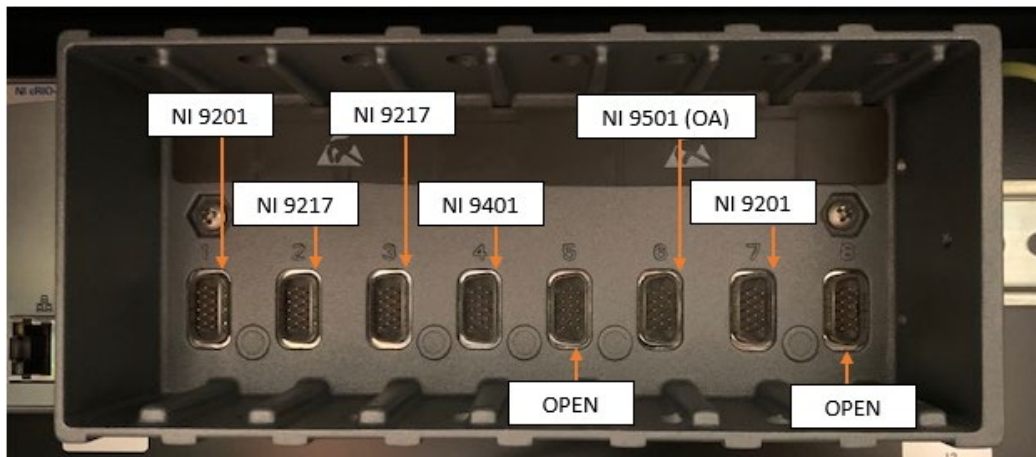

Figure 5
13. Reinstall the cards back into their respective locations. **See Figure 5**